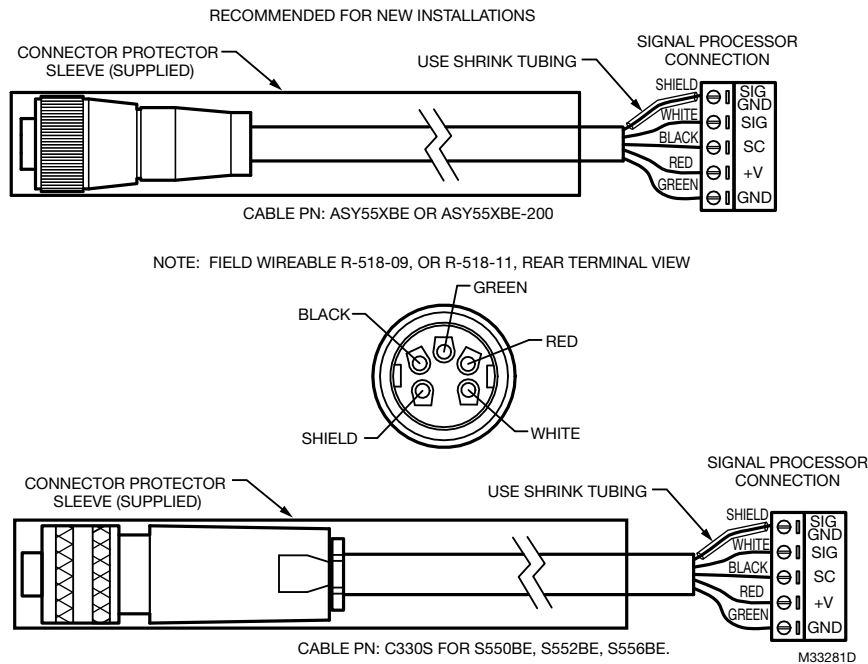

Fig. 2. Cable & Connections for the S550BE, S552BE, and S556BE viewing heads.
See Fig. 2 for S55xBE connections.
Connection of the Honeywell type cable to the field wireable plugs is shown in Fig. 2, and should be done as follows:
9. Proceed to wire the connector as follows: (Refer to Fig. 2 for terminal locations.)
The cable at the signal processor end should be prepared in a similar way to the plug end. Follow the wiring connections as shown in Fig. 2.